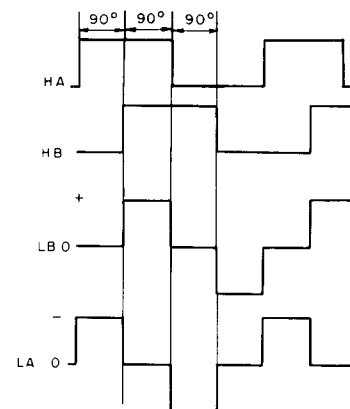

Fig. 12-8 Drive circuit waveforms
2. The position sensing signal produced by the Hall elements are each output to the block diagram position signal synthesizing circuit, and their waveforms are shaped as shown in Fig. 12-8.
3. The staircase waves are each input into the block diagram 4-phase drive circuit, and as shown in Fig. 12-8, LA and LB alternate back and forth in a 90° duty cycle (voltage) to turn the motor.